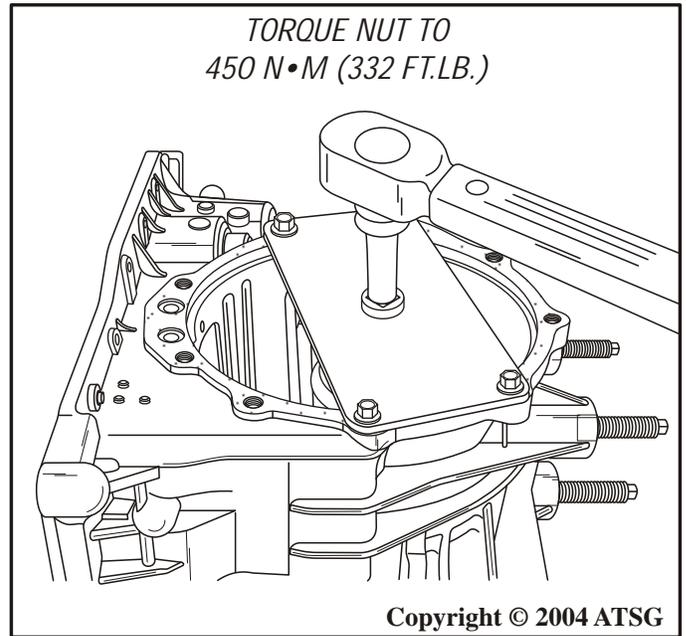

Figure 126
34. Install the final drive input nut socket 307-414 and wrenching plate (See Figure 126).
35. Torque the final drive input bearing nut to, 450 N•m (332 ft.lb.), as shown in Figure 126.